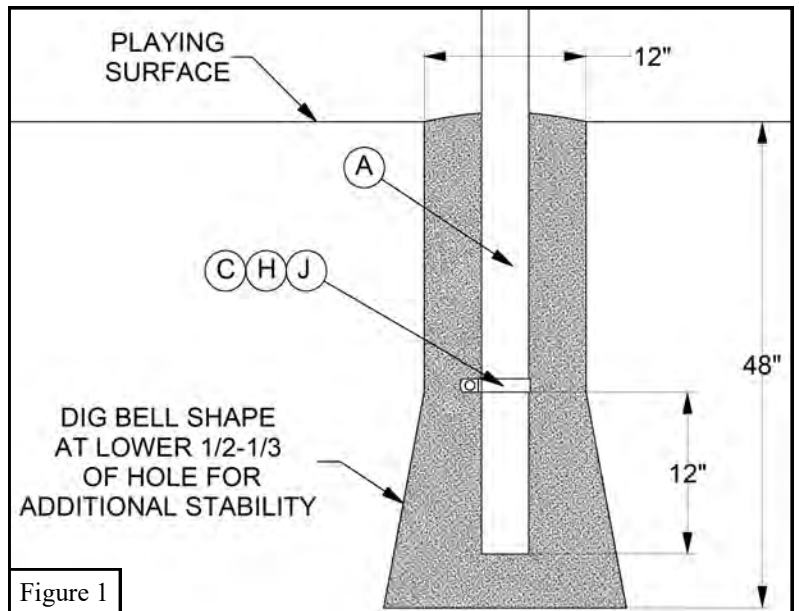

Figure 1
2. Select the location for the concrete base footing. Note that the face of the *Backboard* (Q) will be approximately 48" from the center of the footing for a BA777 Pole and 60" for a BA777XL Pole. Dig a 12" diameter hole that is 48" deep. Remove additional soil from the bottom 1/3-1/2 of the hole in a bell shape to add pole stability. In areas where the normal frost line is below 48" it is advisable to dig to the normal frost line. See Figure 1.
3. Make sure that you have a level and a broomstick or similar pole to vibrate air pockets out of concrete. A 12" diameter by 36" deep hole with a bell bottom will require approximately 4 cubic ft. or 3000 PSI *Quick Dry Concrete* (T). You will need to adjust the amount depending on the size of hole you prepared. Having too much is better than having too little.
5. Attach one *Band Clamp* (C) with $5/16'' \times 2''$ *Carriage Bolt* (H), and $5/16''$ *Flange Nut* (I) approximately 12" from the bottom end of pole and insert pole into concrete while vibrating concrete to allow it to surround the pole completely. The horizontal extension section of the pole should be parallel to the playing surface, perpendicular to the intended court end line and the lower surface of the horizontal portion of the tube should be 9' 6 1/2" above the playing surface. You will need to brace the pole to maintain this dimension to insure the rim height will be at official 10'. See Figure 1 & 2